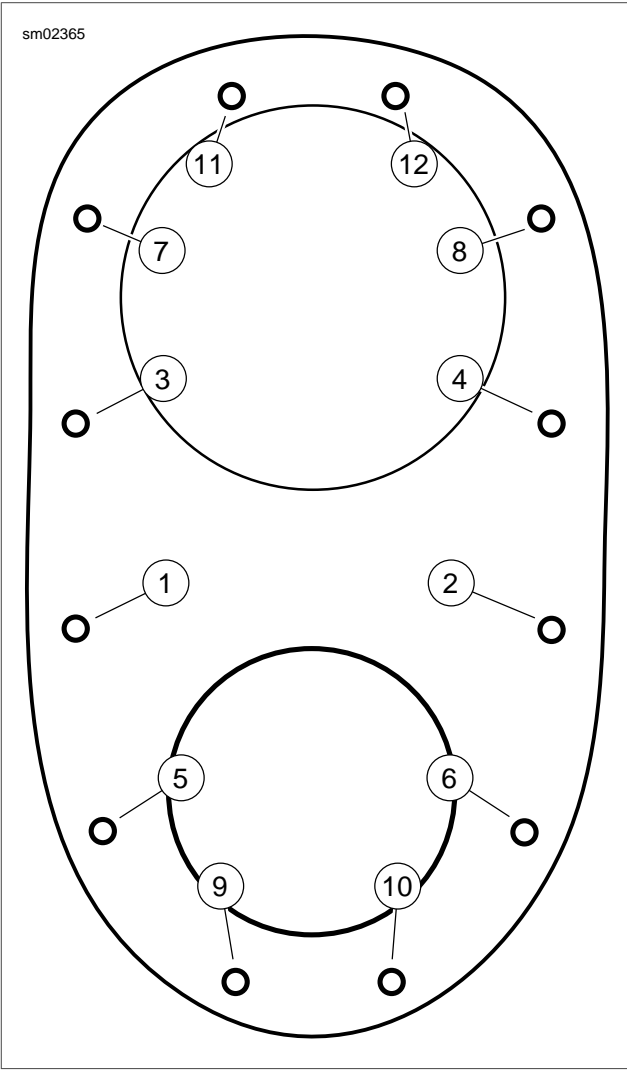

Figure 4-55. Top Plate Torque Sequence: FXD/FXDB/FXDL
12. On FXD/FXDB/FXDL models, see Figure 4-55. Tighten sealing fasteners using pattern shown to 20 **in-lbs** (2.3 Nm).